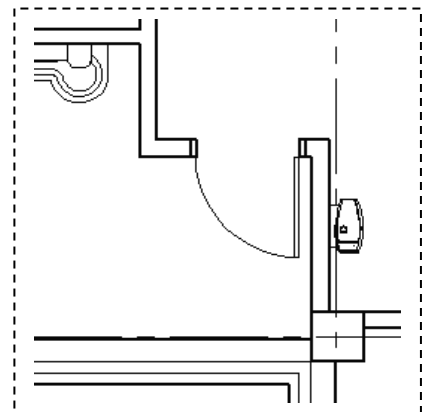

FIGURE 4-1.10 Drinking fountain centered on wall
17. Add a **drinking fountain** just to the east (right) of the Men's toilet room, and centered on the wall, as shown in Figure 4-1.10.